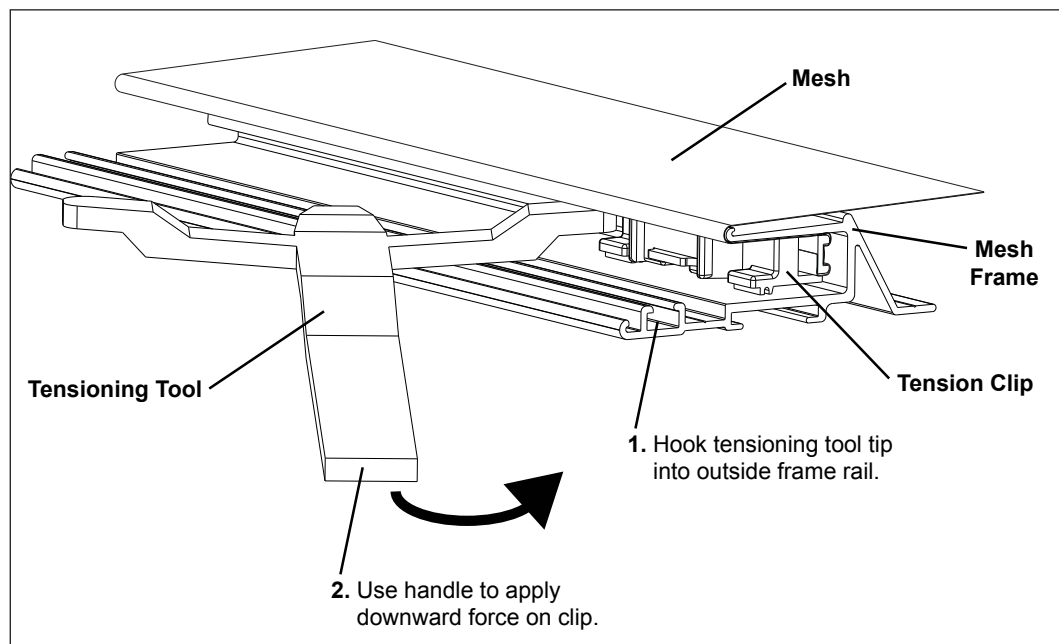

Figure 20: How to Use Tensioning Tool
- g. Use the tensioning tool provided with the mesh replacement kit (part # 0A-1340-2032) to drive the tension clips into the tension channels (**Figure 20**). Start with one or two clicks.